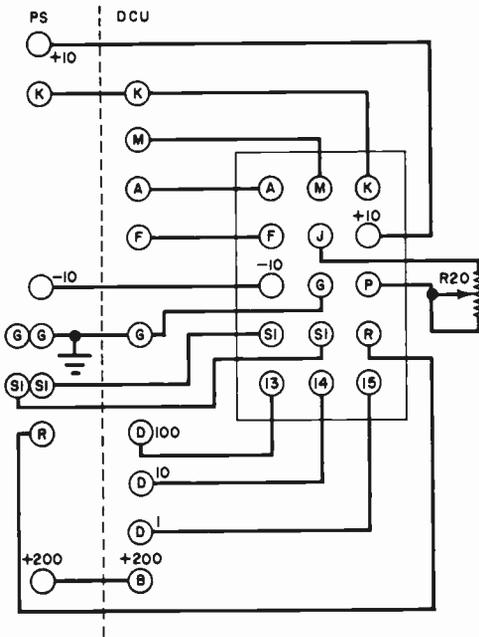

Fig. 3. Power supply (PS) and readout (DCU) boards and 15-contact connector are wired together as shown. Potentiometer R20 is display time control.
be wired to each other and to a 15-contact connector. The connector provides a means for routing the signal and power lines to and from the plug-in modules. The wiring procedure is greatly simplified by the fact that all wiring holes in the circuit boards are assigned a letter-code designation. This code is set up so that like letters mate with each other and with the coding on the connector as shown in Fig. 3. Between the boards, you can use solid hookup wire, but between the boards and connector, it is recommended that you use stranded wire.
Mount the RATE control and the RESET switch on the front panel of the main frame. Then, on the rear apron, mount the fuse holder and pass through its entry hole the ac line cord and fasten it in place with a strain relief. Then finish wiring the power supply primary circuit, referring back to Fig. 1 and Fig. 3 for details.
**Testing the Main Frame.** Temporarily connect a jumper wire between the two **S1** contacts on the connector (see Fig. 3). Plug the line cord into a convenient 117-volt, 60-Hz ac outlet. Use a voltmeter to check the +10-volt, -10-volt and +200-volt outputs from the power supply. Your readings should be within 10% of these values. Then connect the meter to point **K** in the power supply and chassis ground and adjust *R4* for an exact 5-volt reading.